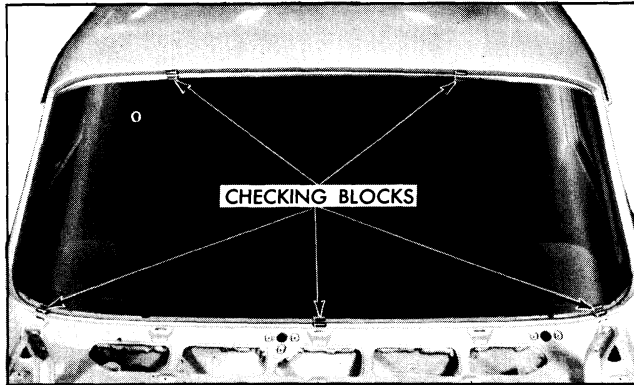

Fig. 2-7 Windshield Check Blocks
4. Install five windshield checking blocks as follows: along lower retaining flange place one black twelve inches (12") inboard of each lower corner and one at center of windshield opening. Position one block over upper pinchweld flange midway between center block and each outboard block on lower retaining flange (Fig. 2-7).
6. With windshield supported and centered in the body opening by checking blocks (Figs. 2-7 and 2-8), check relationship of glass to body opening around entire perimeter of glass as follows:
**NOTE:** Windshield checking blocks (J-8942) may be used as shown in Fig. 2-7.